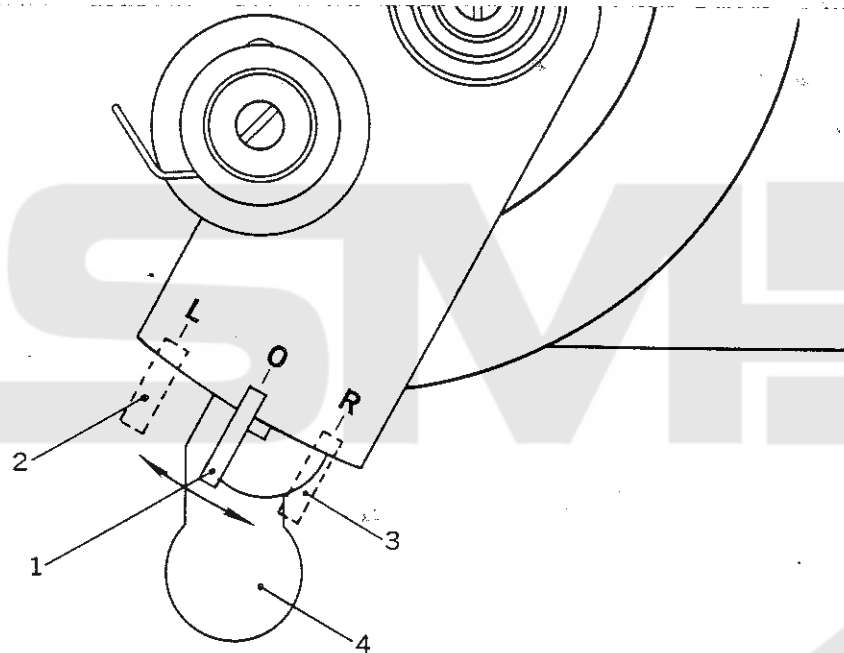

FIG. 37
Pushing the needle bar change over lever (1) Fig. 37 to either position "L" or "R" will selectively suspend the reciprocating movement of either one of the two individual needle bars.